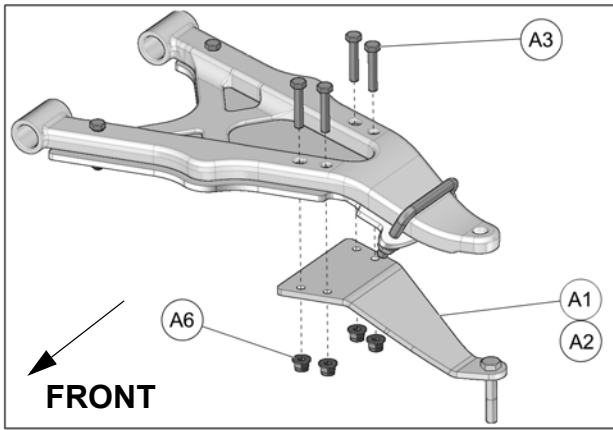

Fig. 18
7. Insert four M8x45mm bolts (A3) through the existing holes in the lower suspension arm and reinforcement plate installed in the previous step. Position the anchor bracket (A1-A2) under the reinforcement plate and bolt it into position using the provided nuts (A6). See Fig. 18